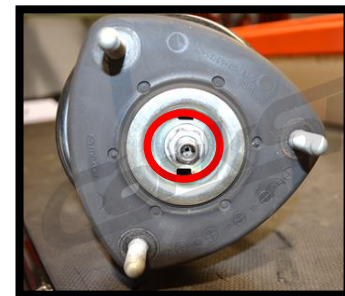

Figure 2i
- i) Remove the one (1) 17mm nut shown with red circle in Figure 2i holding the upper strut mount to the strut.
- i) Remove the one (1) 17mm nut (shown in the red circle in Figure 2i) holding the upper strut mount to the strut (if the stud spins, you will need to use a 6mm Allen wrench to hold the stud in place)